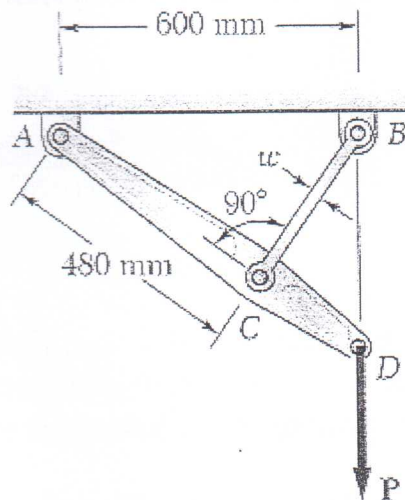

Figure 10.
- (13) Link BC , shown in Figure 10, is 6 mm thick, has a width $w = 25$ mm, and is made of a steel with a 480 MPa ultimate strength in tension. What was the safety factor used if the structure shown was designed to support a load P of 16 kN?
- (14) Link BC , shown in Figure 10, is 6 mm thick and is made of a steel with a 450 MPa ultimate strength in tension. What should be the width w if the structure is being designed to support a 20 kN load P with a factor of safety of 3?